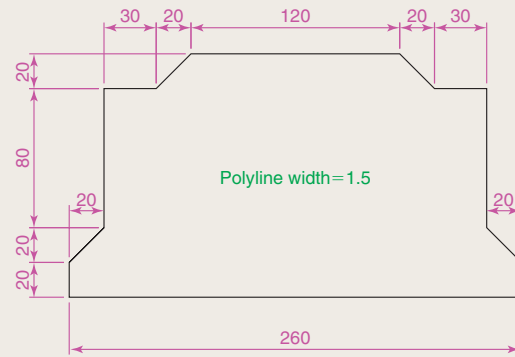

Fig. 2.34 Exercise 7
- Using the **Polyline** tool, construct the outline given in Fig. 2.34.